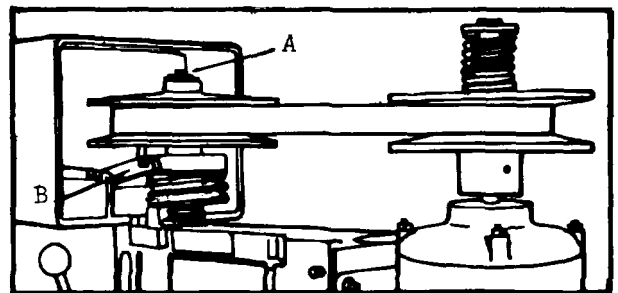
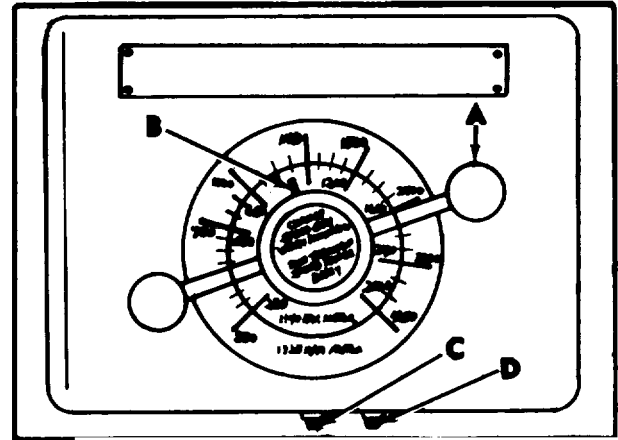

Figure 14. Nut
Figure 15. Calibrating Spindle Speeds
5. Loosen nut (A) Fig. 14. Then turn the pilot wheel until the pointer (B) Fig. 15, is set to the lowest speed. (350 rpm if a 1750 rpm motor is being used, or 230 rpm if an 1140 rpm motor is being used.) Now tighten nut (A) Fig. 14, just enough so that it adjusts the top half of the spindle pulley downward, until it just touches the lower pulley half. NOTE: This adjustment is made with the belt off.
6. Turn the pilot wheel until the pointer (B) Fig. 15, is set to the highest speed.
7. With a crow bar, raise the front end of the bracket (B) Fig. 14, in order to separate the two halves of the spindle pulley as far as possible. Put the belt on the spindle pulley, jerking it into the pulley to keep the two halves wedged apart, and remove the crowbar.
1. Turn on the motor and set the pointer (B) Fig. 15, to the lowest speed. (Either 350 or 230 rpm.)
2. Loosen the hex lock nut and then adjust screw (C) Fig. 15, to provide a positive stop for the pointer at the lowest speed. The best way is to turn the screw clockwise (up) until the pointer cannot be turned to the lowest speed, and then turn the screw counter clockwise (down) a little at a time until the pointer is stopped positively, just as it comes to the lowest speed. Tighten the hex lock nut.
3. Increase the speed until the pointer is set at the highest speed. (4250 or 2830 rpm.) Loosen the hex lock nut and adjust the screw (D) Fig. 15, until the spindle pulley is stopped from opening any additional amount, just as the pointer shows 4250 (or 2830) rpm. The pointer will go on past the mark, but there will be no actual change in spindle speeds or pulley opening beyond the movement allowed by stop screw (D), Fig. 15. Tighten the hex nut.
6. Turn on the motor and turn the pilot wheel (A) Fig. 15 counterclockwise, until the tachometer shows a speed of 350 or 230 rpm, depending on whether the motor runs at 1725 or 1140 rpm. Then, without changing speeds, adjust the pilot wheel so that the pointer shows exactly 350 (or 230) rpm. This adjustment is made as follows.
7. Unscrew and remove the two spokes (A) of the pilot wheel shown in Fig. 15. Then loosen the two set screws found in the holes thus exposed in the hub of the pilot wheel and rotate the hub so that pointer (B) indicates the lowest speed on the dial. Tighten the two set screws and replace the two spokes.